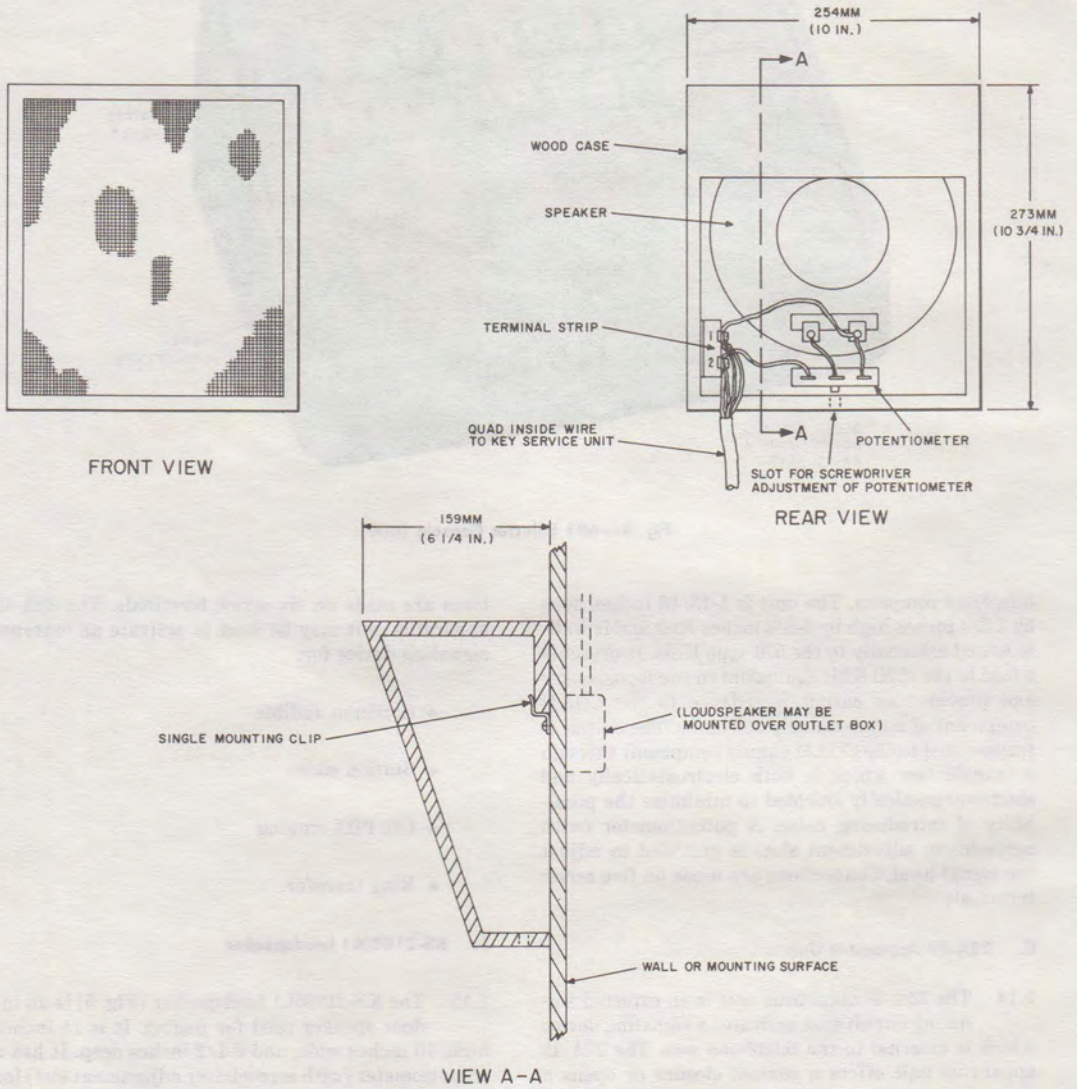

Fig. 5—KS-21880L1 Loudspeaker, Connections, and Mounting
2.15 The KS-21880L1 loudspeaker (Fig. 5) is an indoor speaker used for paging. It is 11 inches high, 10 inches wide, and 6-1/2 inches deep. It has a potentiometer (with screwdriver adjustment slot) for volume control. The KS-21880L1 loudspeaker is furnished with a walnut (woodgrain) finish. It was formerly known as the K8 loudspeaker. The speaker and the speaker enclosure are available as a List 2 and List 3, respectively, as repair or replacement parts.